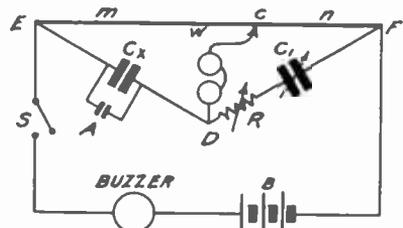

Fig. 6—Slide Wire Bridge for measurement of capacity.
**T**HE WHEATSTONE "slide wire" bridge may be used also to measure unknown capacities, there being required in this circuit but one known capacity. Figure 6 illustrates the connections for this bridge in which C is the known capacity and CX the unknown capacity and m and n are the lengths of the two arms of the slide wire which are adjusted for a balance for a minimum sound in the telephones.